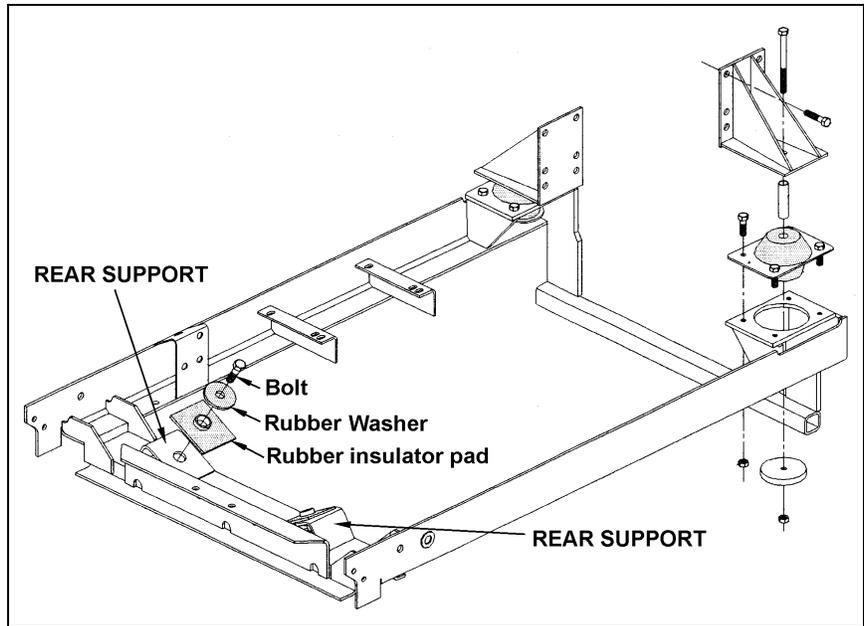

FIGURE 2
4. Measure the gap between top part of engine lug and rubber washer at each of the two rear supports (refer to figure 2).